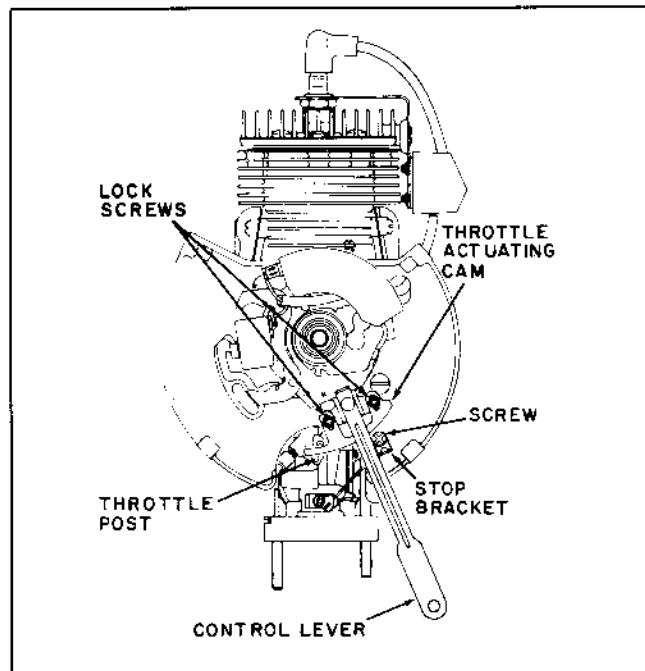

Figure 3-7. High Speed Stop Bracket & Cam Adjustment
5.(a) Adjust the stop bracket (Fig. 3-7) to prevent the control lever from moving any further counterclockwise. Tighten the stop bracket screw securely.